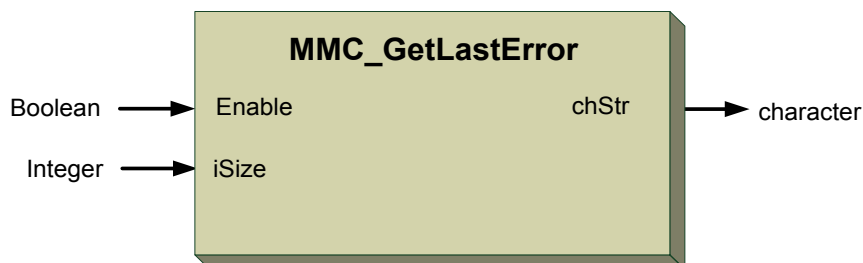

Figure 8-25: MMC\_GetLastError function
**Figure 8-25** describes the function for MMC\_GetLastError as applied within the IEC 61131 programming.